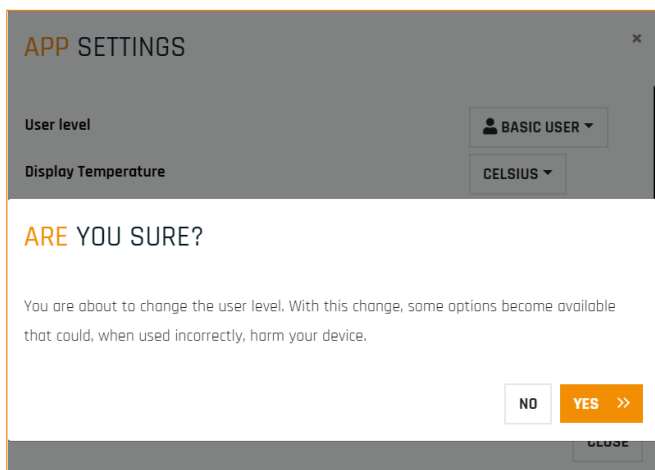

Figure 19. Confirm user level change
4. Navigate to the 'Details' page and make sure to change the battery node ID of the first battery to 11 (Figure 19 and 20)